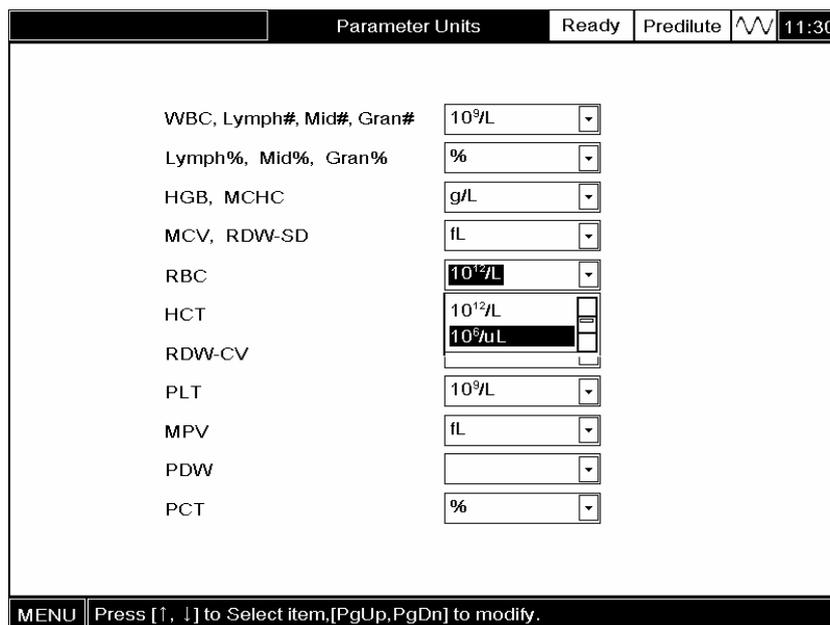

Figure 5-44 Selecting a unit for RBC
3. **SELECT** the desired unit **from** the corresponding **pull-down list** (e.g. RBC in Figure 5-44).